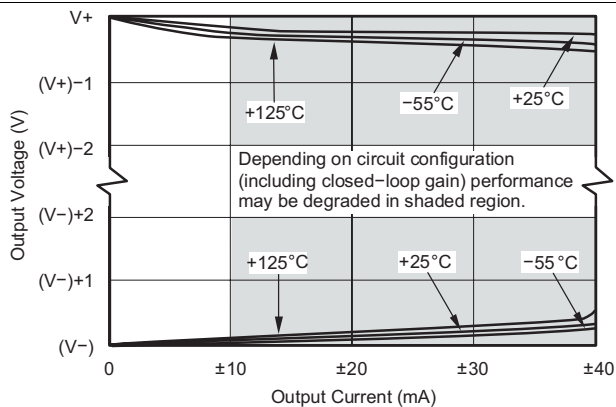
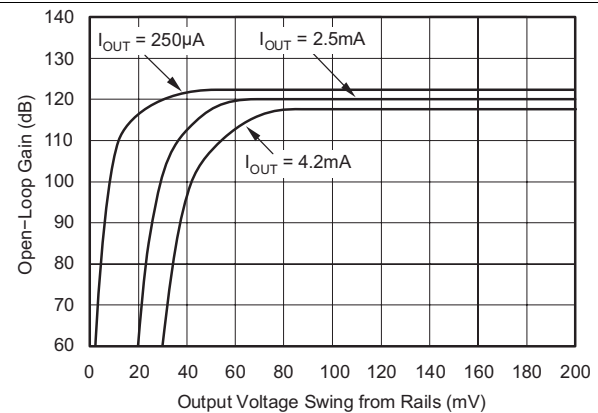

Figure 17. Output Voltage Swing vs Output Current
Figure 18. Open-Loop Gain vs Output Voltage Swing
(4) Output voltage swings are measured between the output and power supply rails.
(5) See Figure 17.
A class AB output stage with common-source transistors achieves rail-to-rail output. For light resistive loads ($>10\text{ k}\Omega$), the output voltage swing is typically ten millivolts from the supply rails. With heavier resistive loads ($600\text{ }\Omega$ to $10\text{ k}\Omega$), the output can swing to within a few tens of millivolts from the supply rails and maintain high open-loop gain. See Figure 17 and Figure 18 for more information.